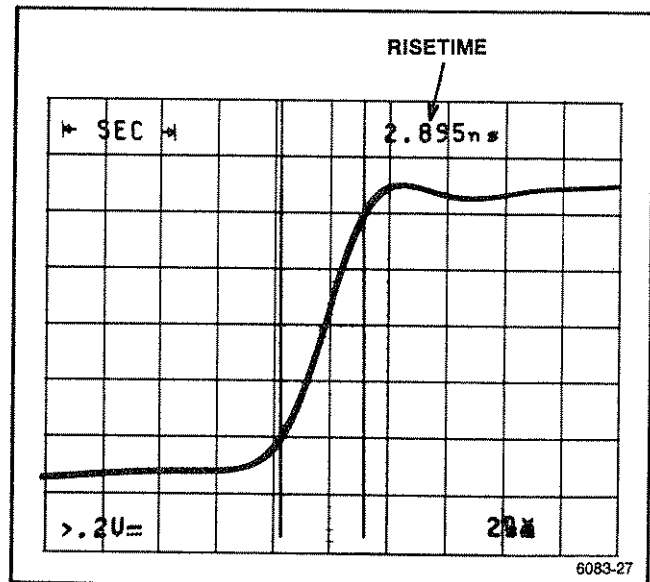

Figure 6-13. Rise time measurement.
7. Use the \leftarrow OR DELAY control to align the first cursor to the rising edge at the point it crosses the 10% reference graticule line. Then use the \rightarrow OR Δ control to align the second cursor to the point that the rising edge crosses the 90% graticule line and read the rise time displayed in the top line of the crt readout (see Figure 6-13).
4. Advance the SEC/DIV setting to stretch out the rising edge of the waveform as much as possible to improve the cursor placement accuracy (see Figure 6-13).